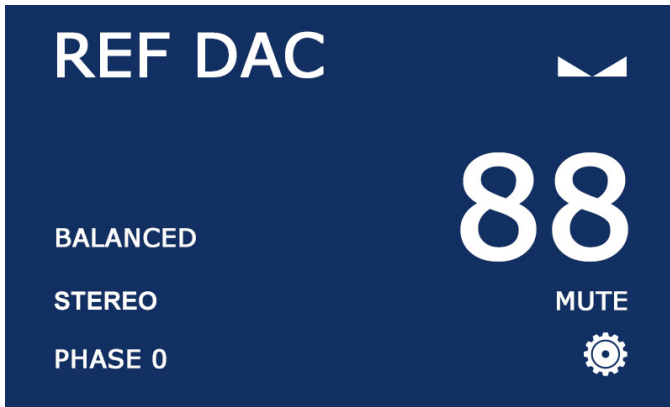

fig. 5
**Balanced/SE, Stereo/Mono, Phase 0/180:** To change any of these functions, touch the word you wish to affect and it will toggle between the two different options for each category (fig. 5).